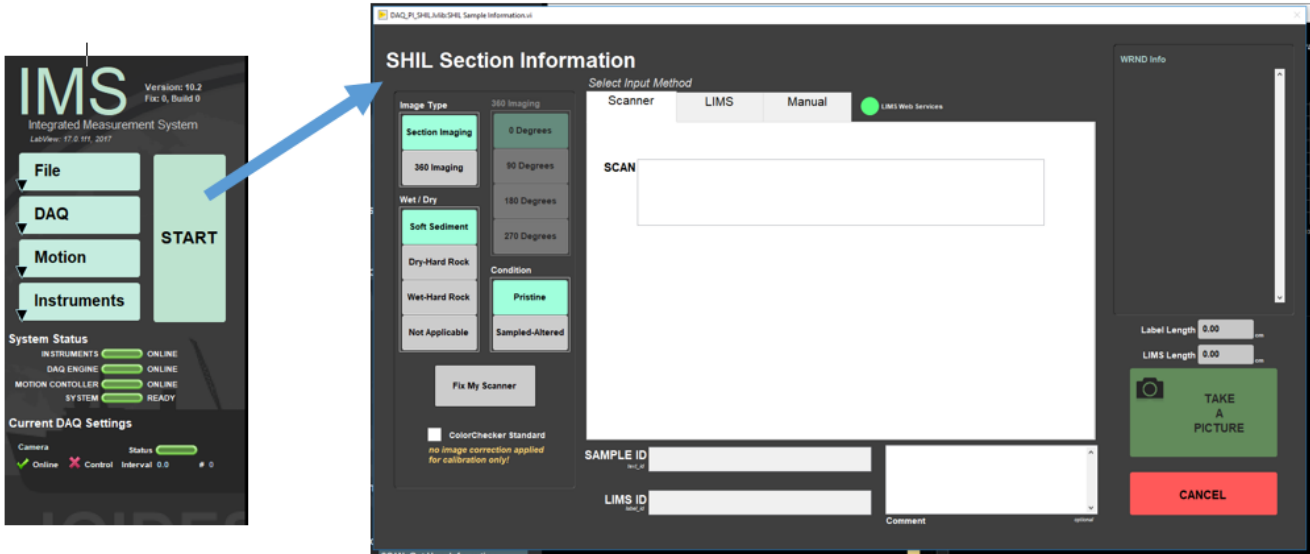

Figure 42. Select SHIL Section Information window
1. Click the green **Start** button in the **IMS Control** panel (Figure 42).